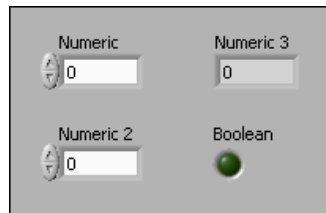

Figure 8. Creating the Front Panel
1. Place the following controls on the block diagram as shown in Figure 8: